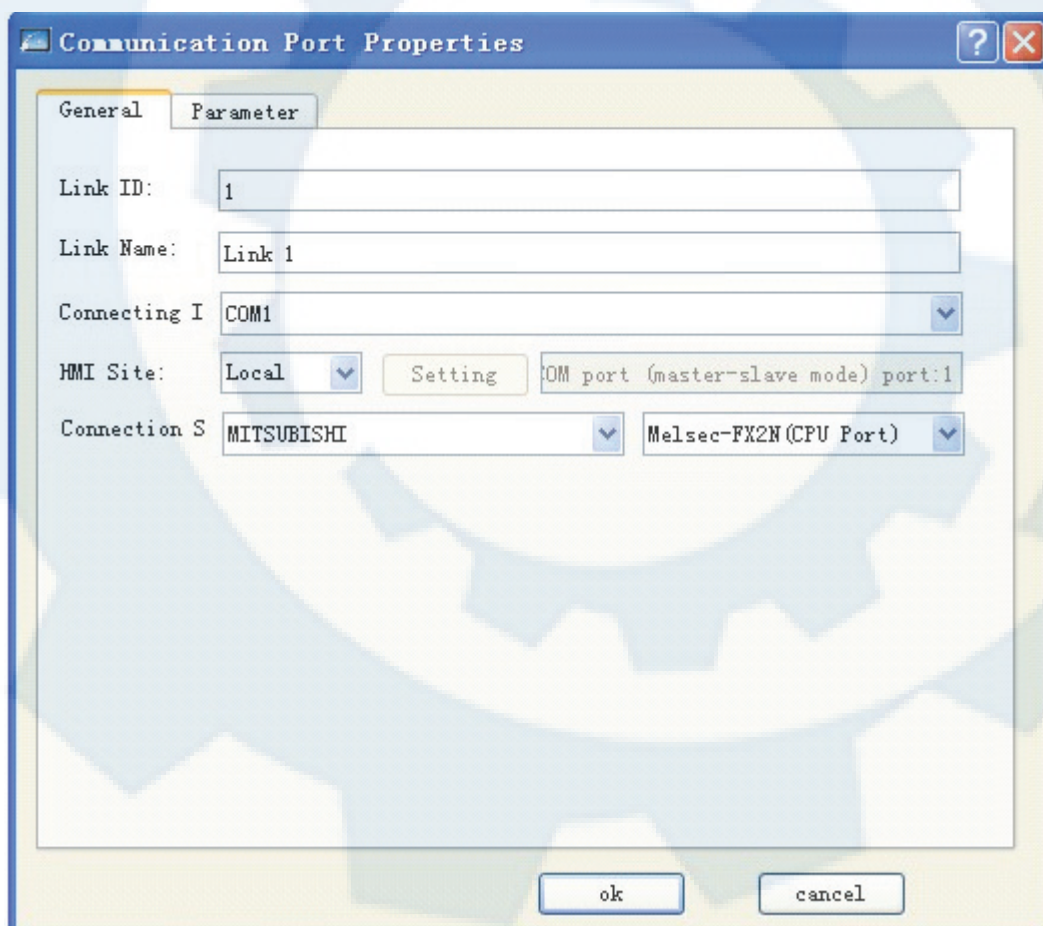

Figure 7-1 Dialog box for setting of COM1 communicate screen
- ◆ Double click “link 1” in the “link”, and pop up the dialog box as shown in Figure 7-1: